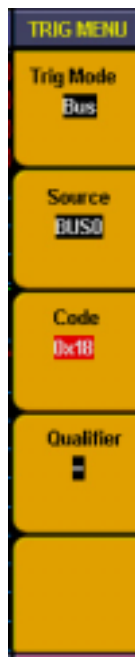

Fig 64 : Bus trigger menu
2. **BUS trigger**: set BUS as trigger source and make data on BUS as the trigger condition to make trigger. BUS trigger menu refer to Fig. 64